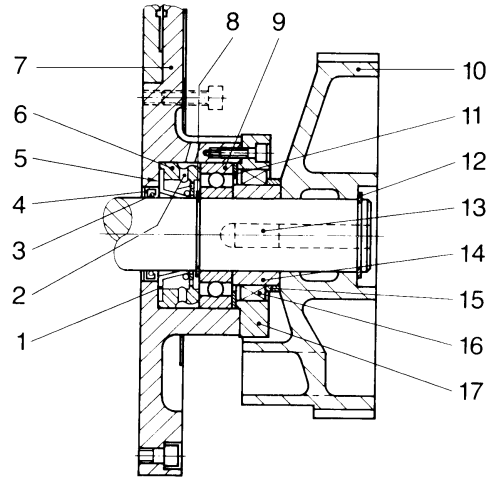

Fig. 12 Cross-section of the bearing in the motor lid (see also Fig. 9)
**Key to Fig. 12**
Using a suitable tool, force in the radial shaft seal from the interior side of the front end plate (for position of radial shaft seal, see Fig. 12).